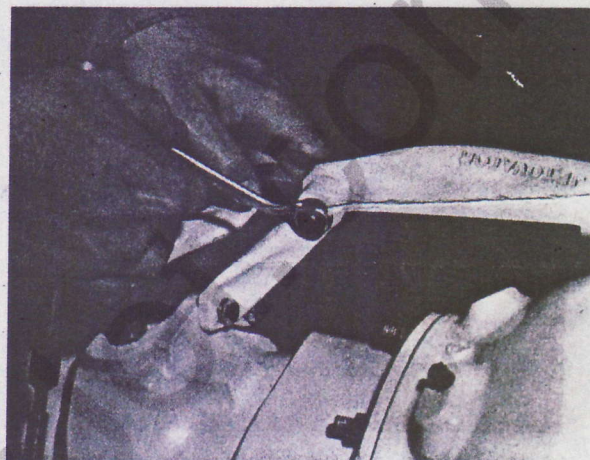

Figure 9
- 9 Attach connecting link (17) to control lever (5). Pass 3/8"-24 hex head capscrew (23) through connecting link and thread through control lever until finger tight. Loosen capscrew 1/2 turn, apply Loctite to exposed threads and fasten assembly with 3/8"-24 hex nut (24) jamming nut against control lever while holding capscrew in place (Figure 9).
- 10 Attach steering swivel (25) to tiller using hex head capscrew (23) spacer nut (24) and lock nut (26) on Model 12JC Jet-Drive as shown on Parts I.D. Drawing H-2846. Note that steering swivel is mounted above 12JC tiller arm. Jam both nuts against tiller allowing steering swivel to rotate freely. On Model 12JB